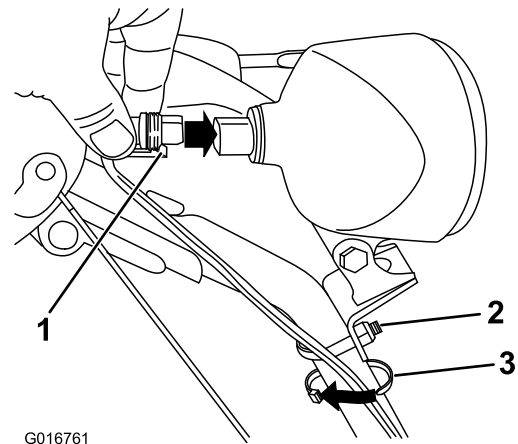

Figure 18
1. Insert the wire connector on the loose end of the wire straight into the back of the headlight until it is securely in place (Figure 18).
Note: Ensure that the plastic clip on the wire connector is on the bottom (Figure 18).
2. Secure a cable tie (from the loose parts bag) around the wire and the handle about an inch (2.5 cm) below the U-bolt (Figure 18).